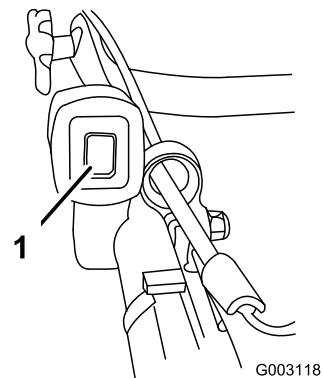

Figure 16
1. Push the ignition toggle switch to the Stop position (Figure 16).